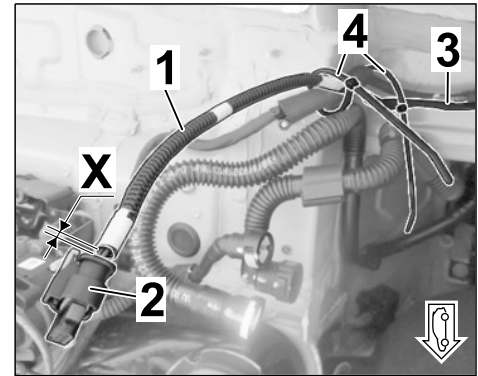

Figure 23
3.4.5 Install corrugated hose 4.5 x 7.6 x X to each branch from a distance of approx. 30 mm from the connector (socket housing 4-pin) to the underbody (⇒ *Figure 23*).